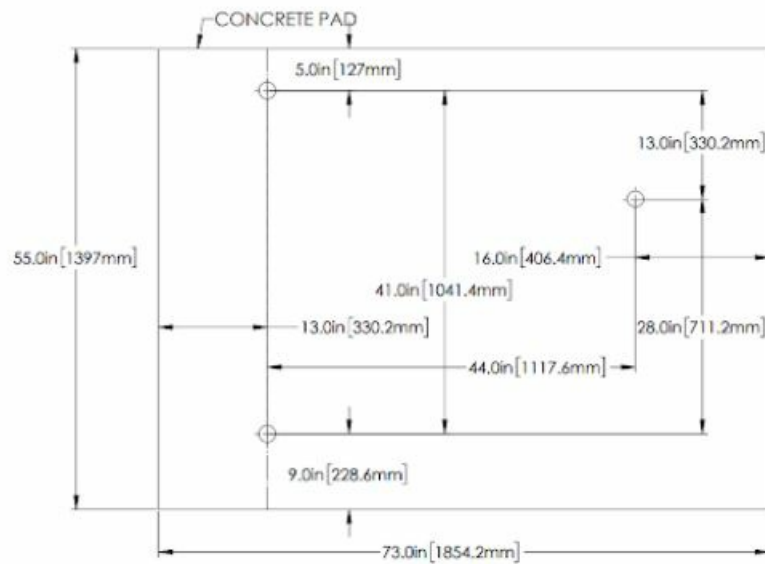

Figure 3: Hole Locations for a Standard Lane 2 System
- **Figure 3:** Hole Locations for a Standard Lane 2 System